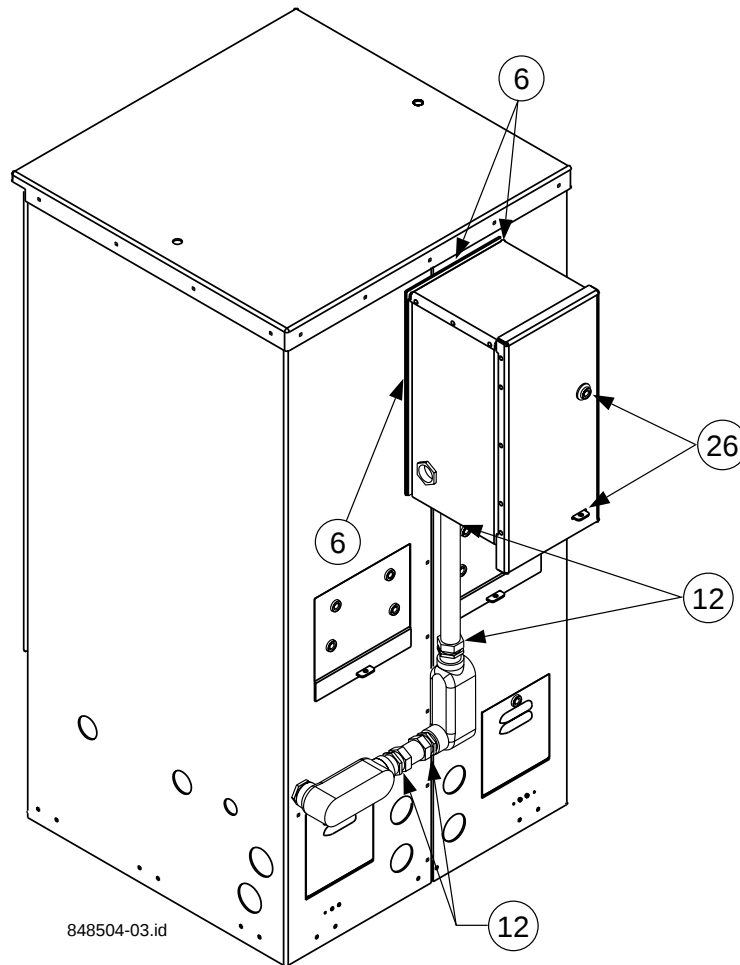

Figure 3. Application of RTV and Securing AC Generator Receptacle Assembly
STEP 6— Apply RTV Silicone, Item 6, around the **TOP AND SIDE EDGES** of the box **ONLY** where it attaches to the surface of the cabinet to provide a continuous seal (Figure 3).
Note 3: Refer to Figures 3 through 8 for Steps 7 through 15.
- STEP 12—** Apply RTV silicone around all fitting/conduit interfaces to provide continuous seals (Figure 3).
STEP 26— Close the front cover of the AC Generator Receptacle Assembly and secure using the tool, Item 8, provided with the kit. Install a padlock (not provided) if required (Figure 3).